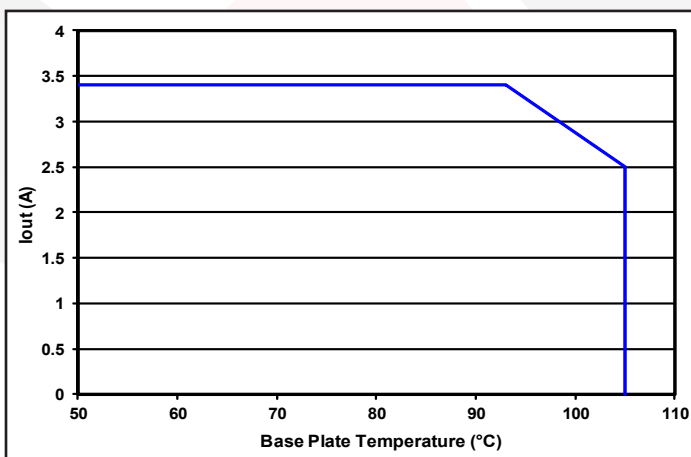

Figure 5: Maximum output current vs. base plate temperature (nominal input voltage).
**Thermal Considerations:** The maximum operating base-plate temperature,  $T_{Bp}$ , is 100 °C. Refer to the thermal derating curve, Figure 5, to see the available output current at baseplate temperatures below 100 °C.